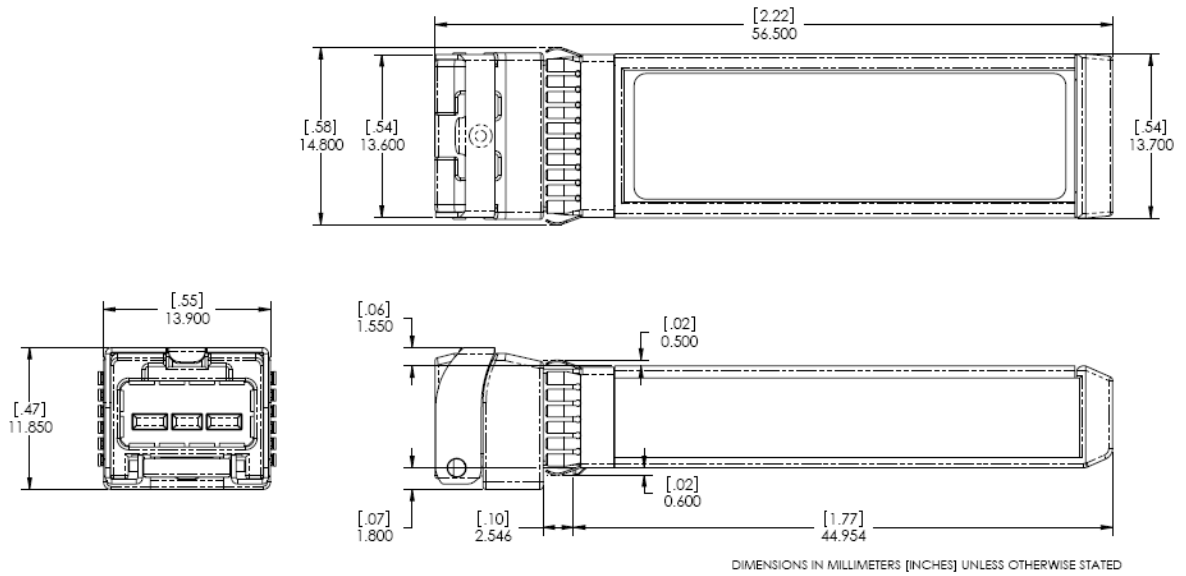

Figure 3. FTLX0071D4BNL Mechanical Dimensions.
2. AC Coupled with 100Ω differential output impedance. See Figure 3 of Laserwire (P/N FCBP110LD1Lxx) Datasheet for output eye mask.